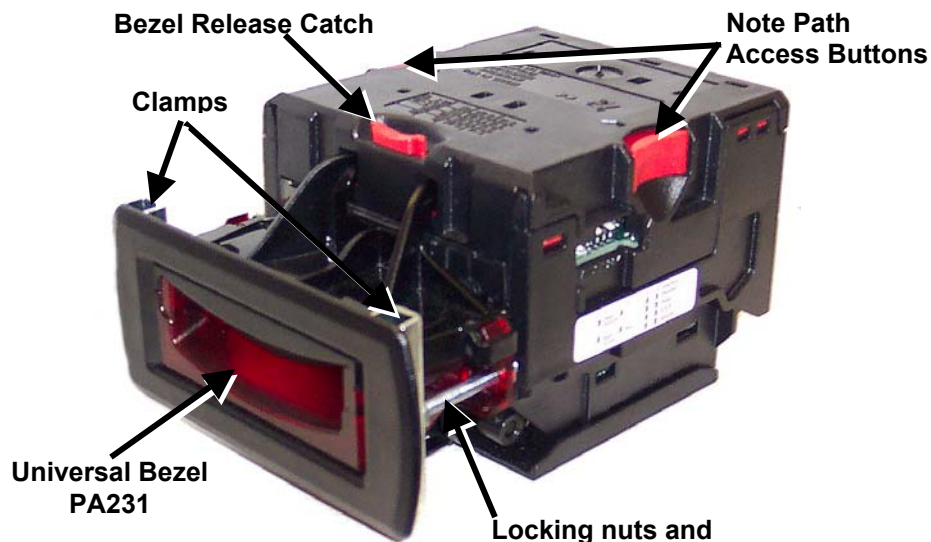
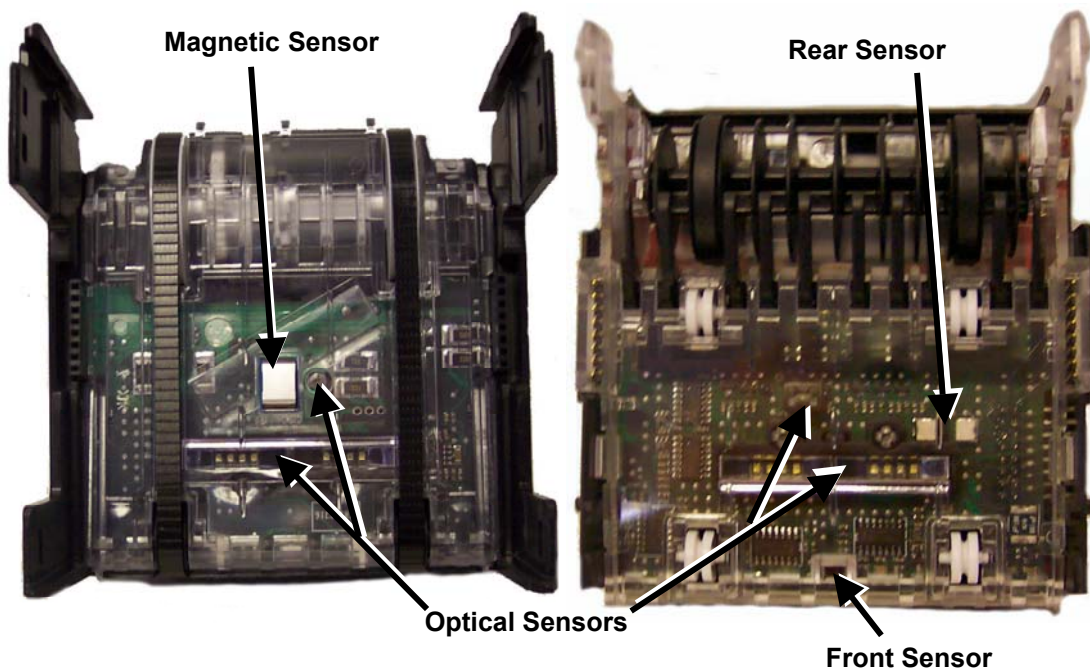

Figure 9 – Bezel and NV8 Installation
Figure 10 - NV8 Sensors
The NV8 validator is supplied with the Universal Bezel-PA231 (see figure 9).
- Remove the 4 nuts, 2 metal clamps, star washers and 2 bolts from each side of the bezel as above (see figure 9).
Remove the NV8 from its bezel. Push the 2 red Note Path Access Buttons on the sides of the NV8 downwards and then inwards towards the body of the NV8 (see figure 9) and lift to expose the note paths, place them on a clean dry surface. The note path will now be exposed for cleaning, (see figure 10).
Carefully wipe the surfaces with a soft lint free cloth that has been dampened with a water and mild detergent solution (i.e. household washing up liquid). Take particular care around all the sensor lenses (see figure 10), ensuring they are clean and dry. Clean any metal debris that may be attached to the magnetic sensor.
- With the NV8 note paths exposed (see figure 10) place the unit on a clean dry surface.